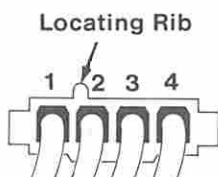

Figure 3. Diskette and Fixed Disk Drive Power Connectors
- Check the diskette drive and fixed disk drive power connectors for the correct voltages (Figure 3 on page 0020-4).